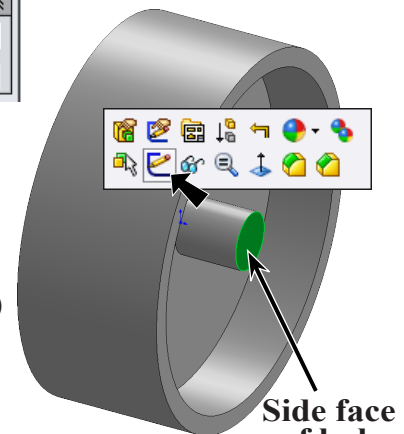

Fig. 9
Step 1. Click the **side face of hub** and click **Sketch**  on the Context toolbar, **Fig. 9**.